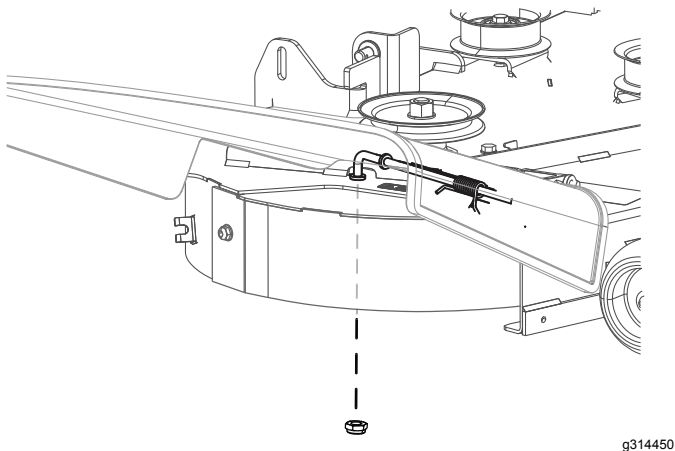

Figure 6
3. Install the nut on the discharge rod, where it was originally removed (Figure 6).